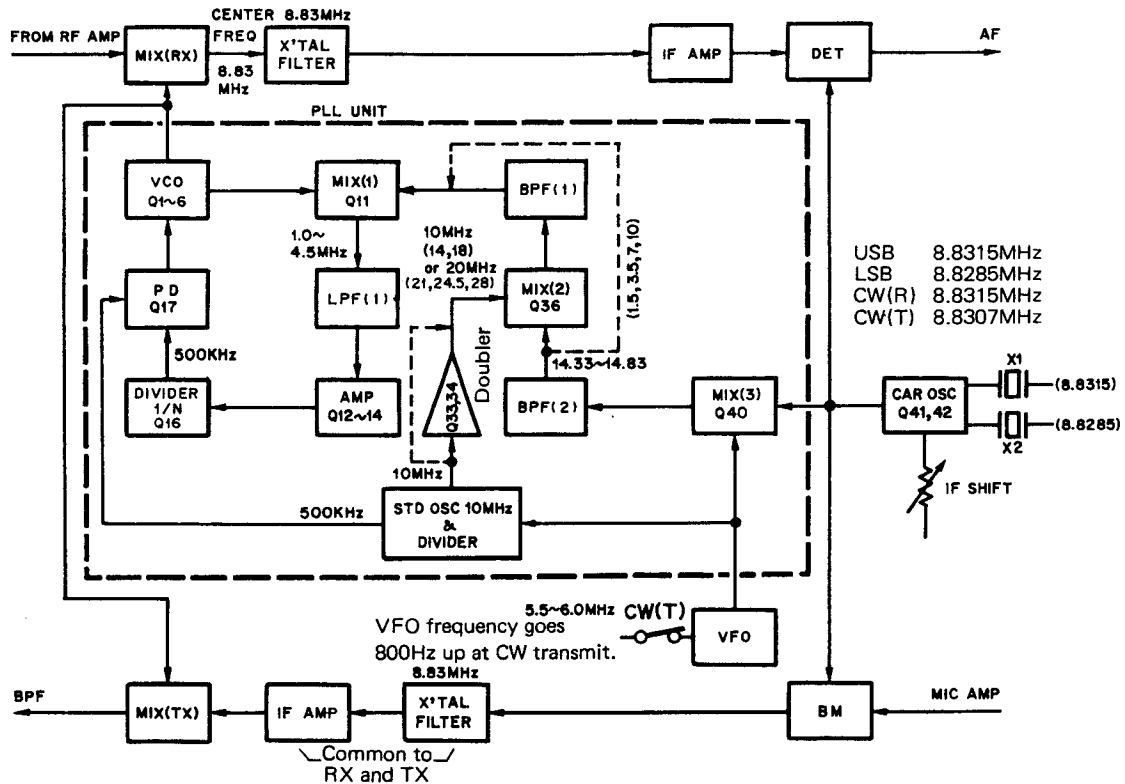
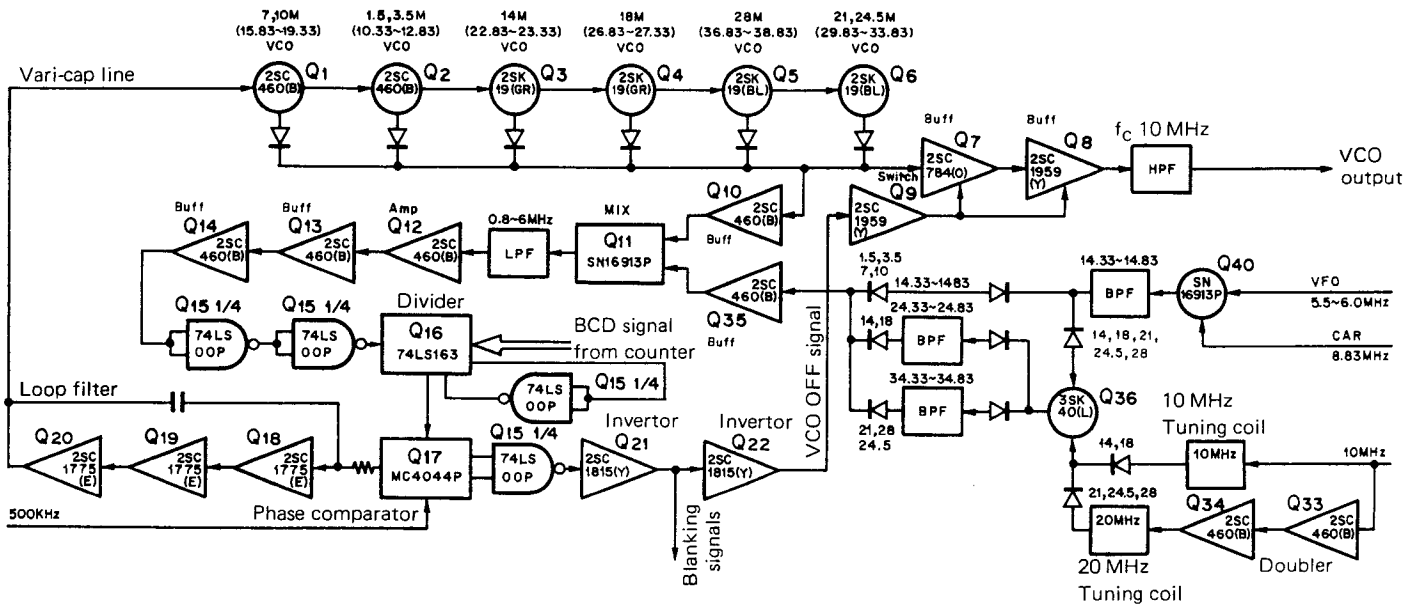

Fig. 1 TS-530 Frequency configuration
Fig. 2 TS-530 PLL circuit configuration
Frequency organization of the PLL circuit is shown in **Fig. 1**, the circuit diagram in **Fig. 2**, and frequency organization in other circuits is summarized in **Table 4**. Please refer to **Fig. 1** when reading the following description of PLL circuit operation. MIX (3), a double balanced mixer, mixes the CAR output with the VFO output. MIX (2), which operates for the 18MHz band and above, mixes either 10 MHz, in the 14 and 18 MHz bands, or 20 MHz, in the 21, 24.5 and 28 MHz bands, with the output of MIX (3) to generate the appropriate frequency needed for each band, as shown in **Table 4**.
The CAR oscillator consists of a crystal controlled oscillator which uses two crystals : one for LSB and the other for USB and CW . Frequencies generated are shown in Fig. 1. The oscillating frequency can be varied by the IF SHIFT control during reception.